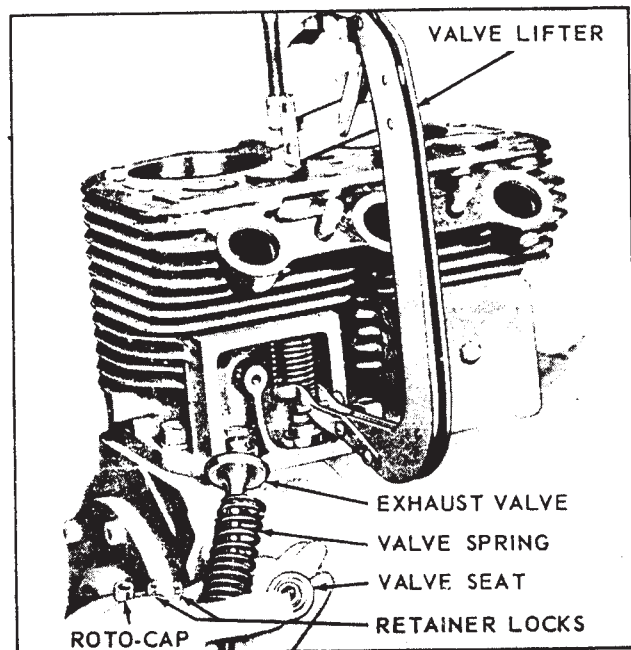

Figure 10-14. Valve Spring Compression
1. Remove the valve tappet inspection plate and compress the valve springs with a standard automotive type valve lifter, as shown in figure 10-14. If cylinder block is still attached to the engine, insert a rag in the opening at the bottom of the valve chamber so the roto-cap and valve spring seat retaining locks do not fall into the crankcase.